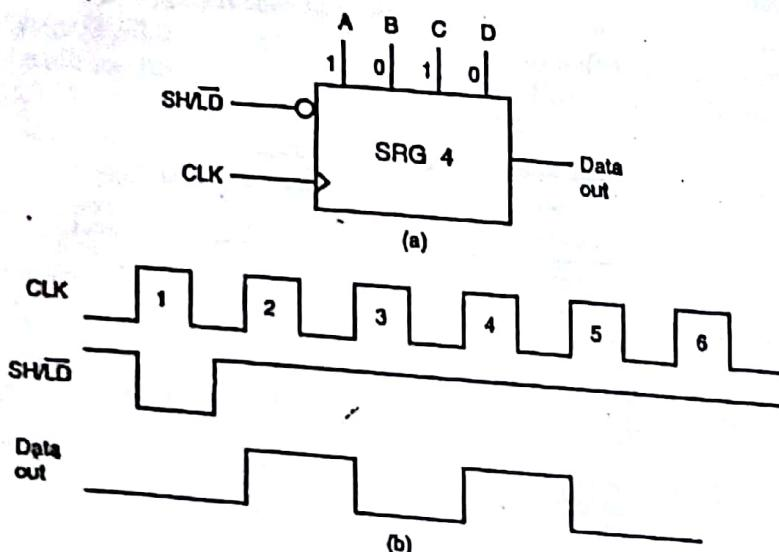

Fig. 8.16.
**Example 8.3.** Fig. 8.16(a) shows the symbol of a 4 bit parallel in-serial out shift register. Data 1010 is entered in it. Show the data and waveform along with clock and shift/Load waveforms.
**Solution :** The clock, shift/Load and data (1010) waveforms are shown in Fig. 8.16(b).